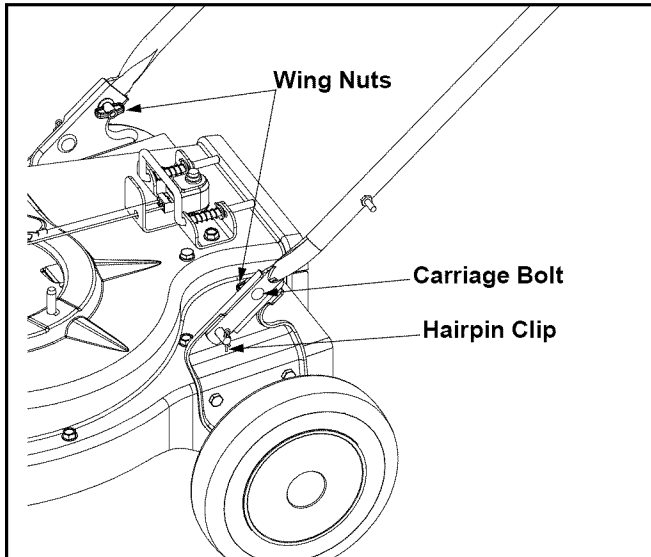

Figure 2
- Secure the two handles by tightening the wing nuts (carriage bolts must be seated properly into the handle). See Figure 2.